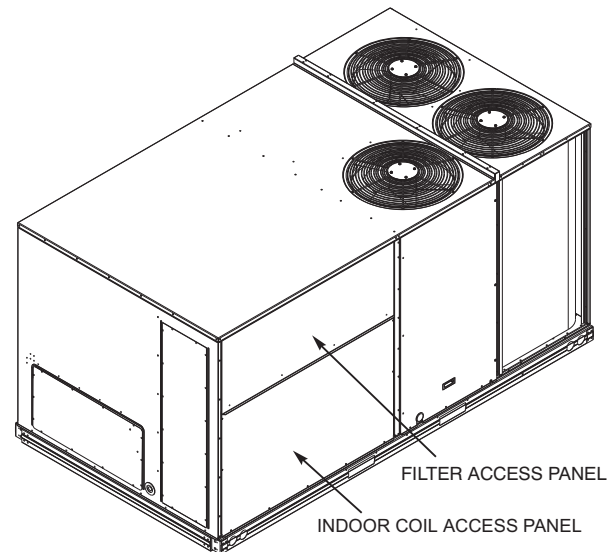

Fig. 11 - Typical Access Panel Locations
2. To gain access to the hood, remove the filter access panel. (See Fig. 11.)